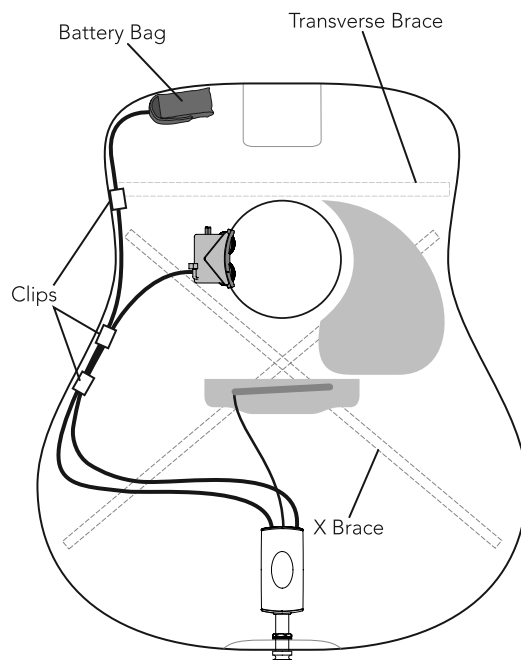

Figure 1.
1. Test the area where you will mount the Volume & Tone control module. Locate the module flush with the edge of the soundhole, on the bass side, between the transverse brace and the bass-side x-brace (figure 1).
8. Secure the wires inside the instrument with the supplied adhesive-backed clips (figure 1). Clean the bare wood surface where you will fasten the clips. Use an alcohol wipe or a cotton swab moistened with rubbing alcohol.
Install the battery bag on or near the neck block as shown in figure 1.